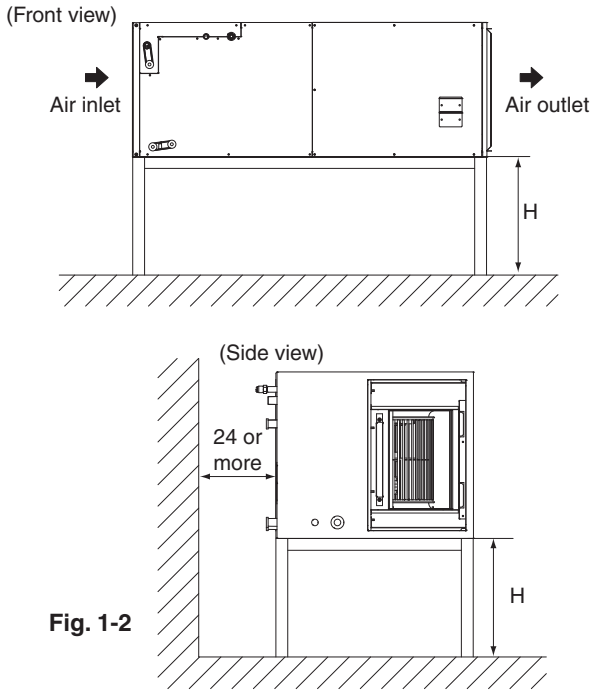

Fig. 1-2
(1) Select an installation site where the following conditions are fulfilled and that meets with your customer's approval.
- Where sufficient clearance for maintenance and service can be ensured. (Refer to Fig. 1-1 and Fig. 1-2)
- When installing the unit horizontally, be sure to tilt the unit in the direction shown in Fig. 1-2. If the unit is tilted in any other way, water can leak.